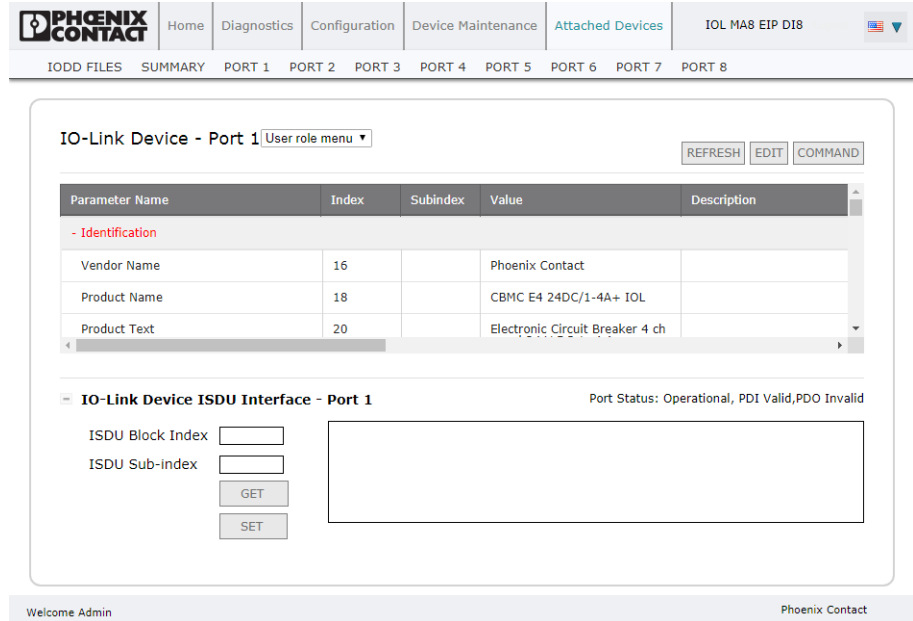

Figure 5-44 “IO-Link Device ISDU Interface - Port *n*” group expanded
- If necessary, convert hexadecimal ISDU index numbers to decimal, enter the decimal values in the “ISDU Block Index” and “ISDU Subindex” fields (see Figure 5-44).